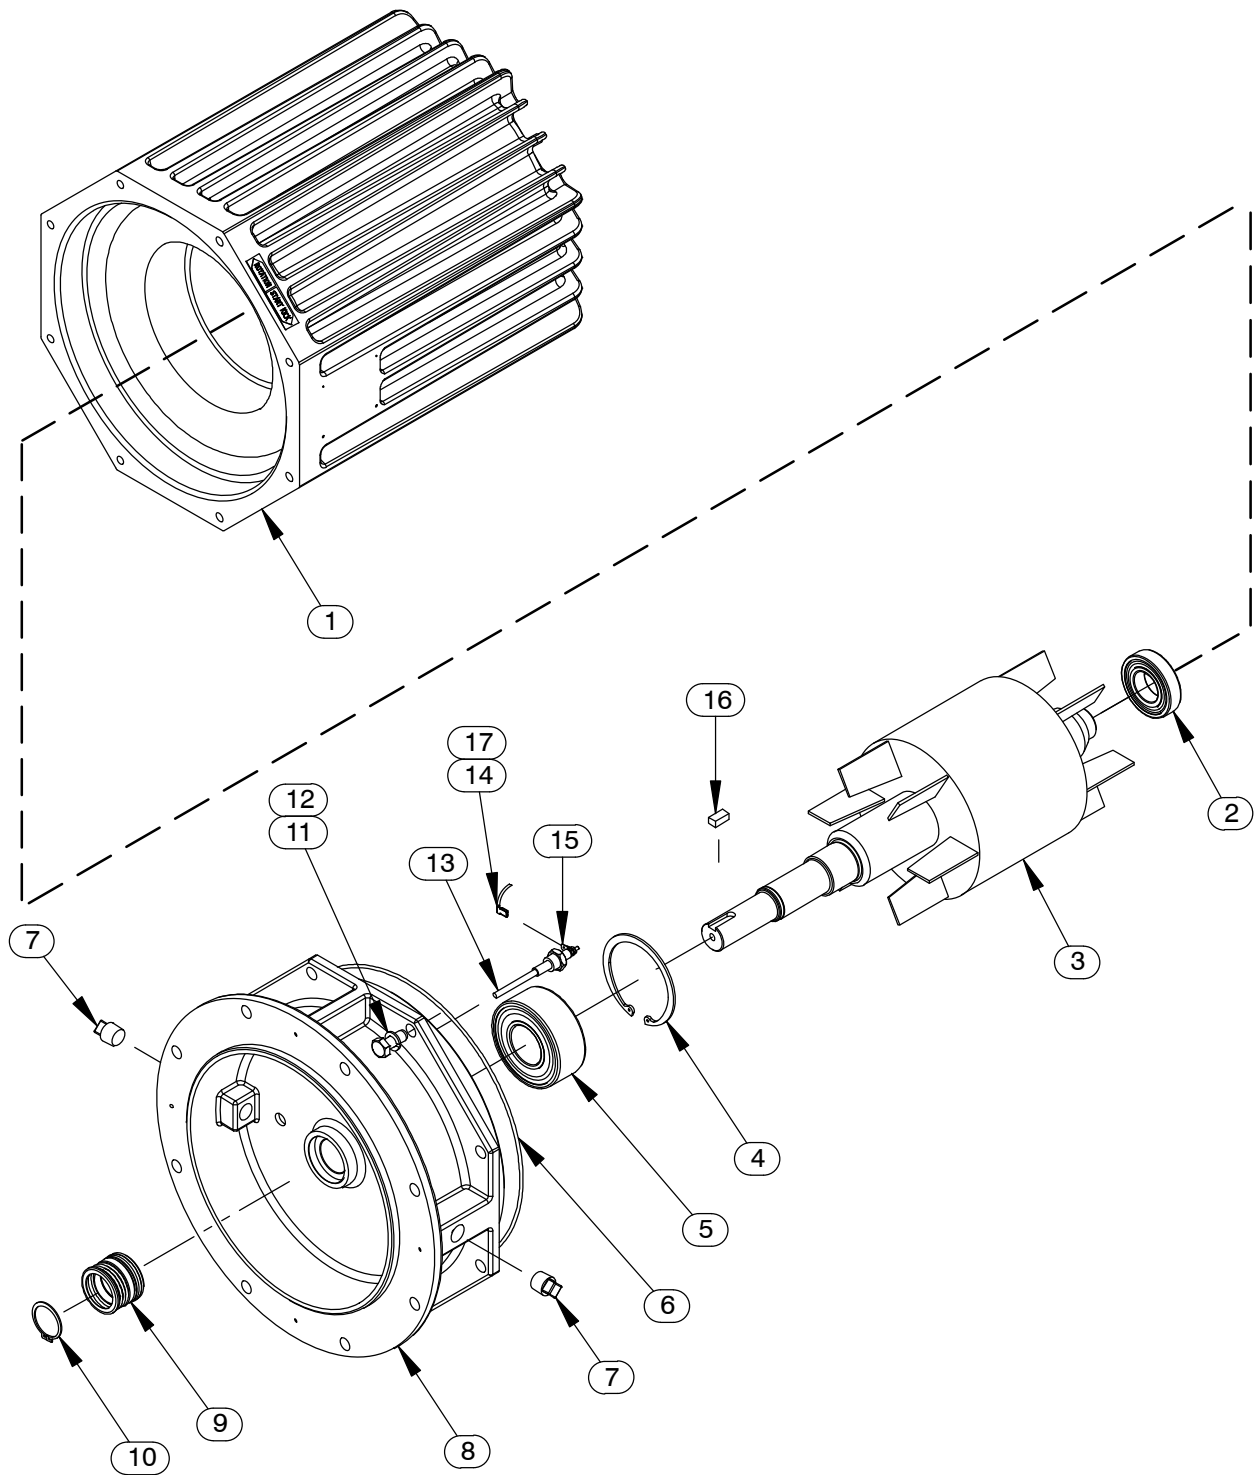

Figure E-2. Motor Assemblies
Draining Oil From Seal Cavity**(Figure E-2)**
the impeller and “walk” the impeller off the shaft. Use increasingly larger screwdrivers (or wedges) as necessary. After the impeller comes free of the shaft, retain the impeller key (16, Figure E-2).
An alternate method of removing the stationary element is to remove the screws (16) securing the seal plate (14) to the motor assembly (6). Pry the assembled seal plate and stationary element off the shoulder of the intermediate (8, Figure E-2). Remove the O-ring (5) and press the stationary element and seat out of the seal plate from the back side.
(Figures E-2 and E-3)
Inspect the rotor shaft (3, Figure E-2) for damaged threads, scoring, or nicks. Remove nicks and